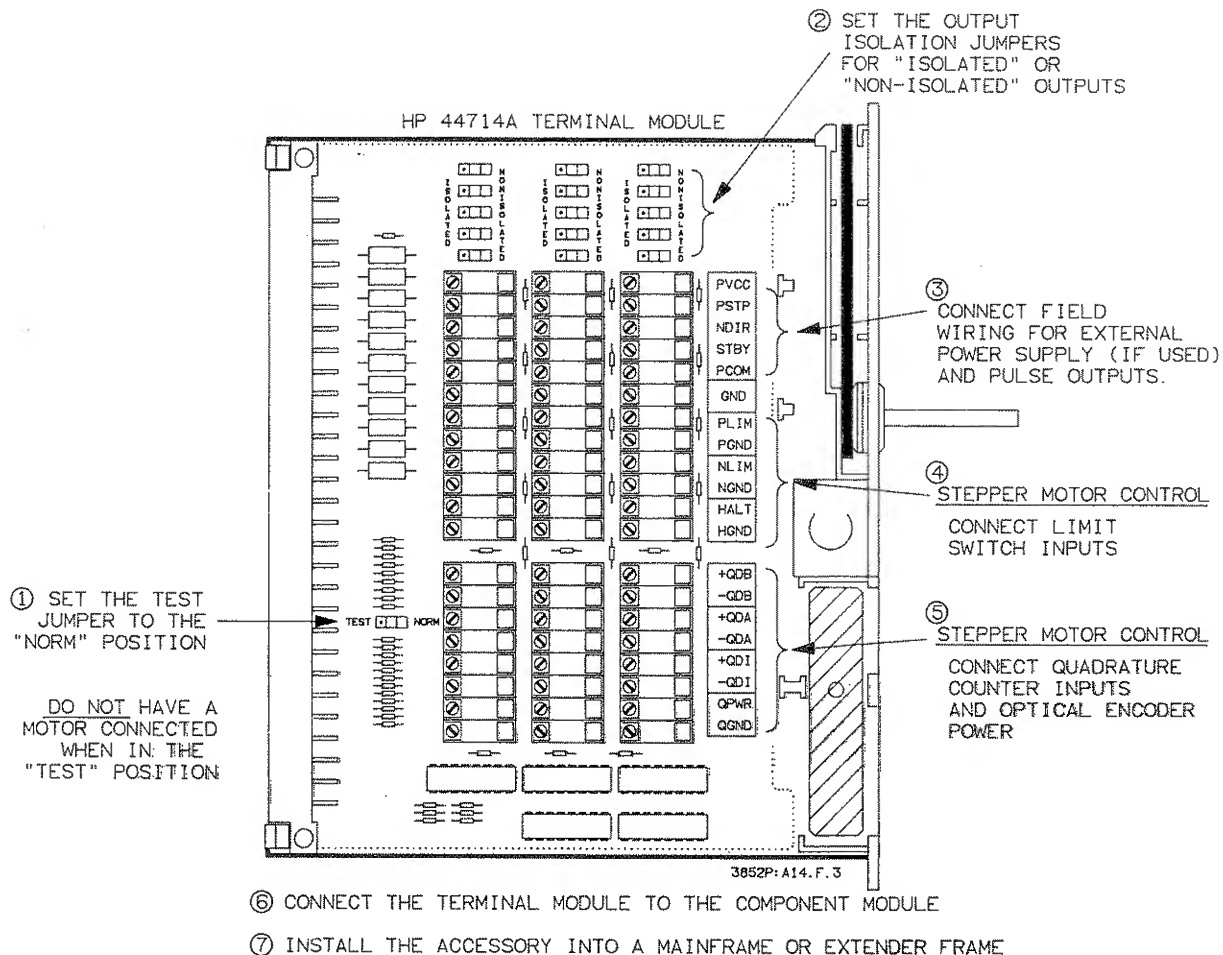

Figure 2-2. HP 44714A Hardware Set-Up Steps
Whether you use the HP 44714A as a stepper motor controller or for general purpose pulse output, you perform the same set-up procedure except for the field wiring. Figure 2-2 illustrates the seven steps required for setting up the HP 44714A hardware (steps 4 and 5 are only required if limit switches are installed (Step 4) or if an optical encoder is connected to the quadrature counter (Step 5). In the text that follows, the steps are denoted by a circle around the step number (i.e. step no. 1 = ①).
① Setting the TEST Jumper
A test jumper is present on the HP 44714A terminal module (see Figure 2-2, Step ①). When the terminal module is connected to your application, the jumper must be in the "NORM" position. Refer to the HP 44714A Service Manual for setting the test jumper to the "TEST" position and testing the HP 44714A.
Figure 2-2 step ③ identifies the pulse outputs and external power supply inputs.
③ Wiring the External Power Supply
Whether you use the HP 44714 as a stepper motor controller or for general pulse output, you can isolate the PSTP, NDIR, and STBY pulse outputs by using an external power supply. To use an external power supply, you should have all jumpers for a channel set to the "ISOLATED" position. Figure 2-4 illustrates how an external power supply is connected. Figure 2-2 step ③ shows the PVCC and PCOM connectors on the terminal module.